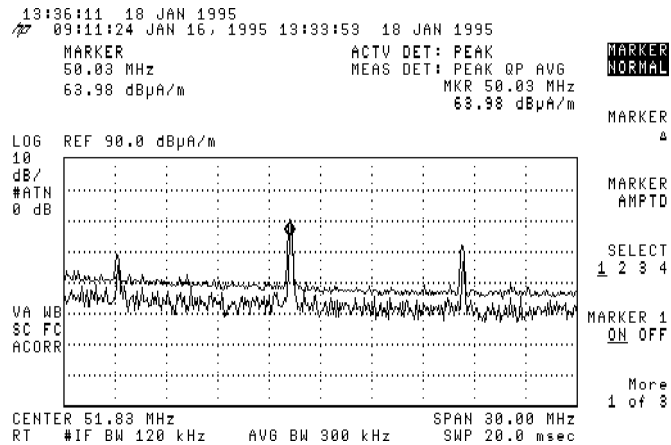

Figure 7-6. Reading the probe's output in dB μ A/m.
21. Position the marker on the desired signal. Read the field-strength value in dB μ A/m in the marker box. Refer to Figure 7-6.